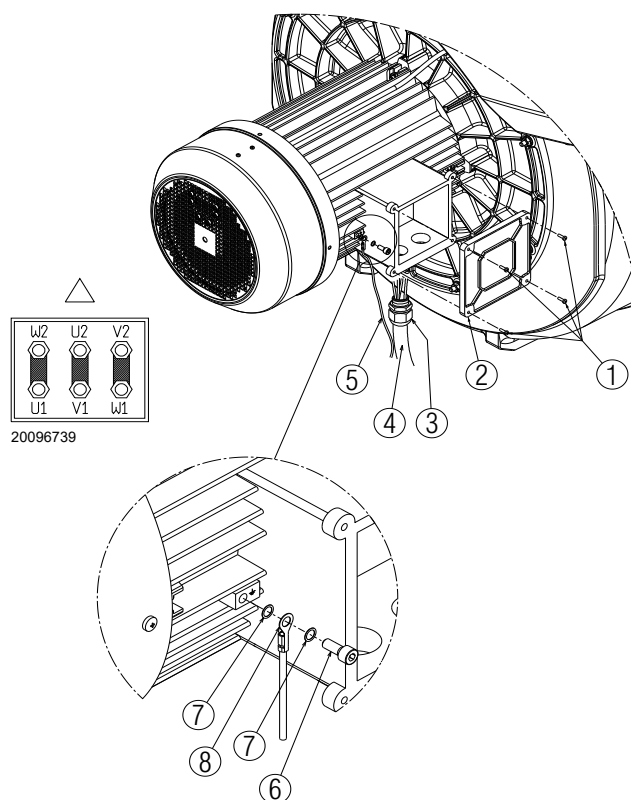

Fig. 26
- to access the motor casing, loosen the four screws 1)(Fig. 26) and remove the cover 2).
- Make a final visual check, then close the motor casing by tightening the 4 screws 1)(Fig. 26).